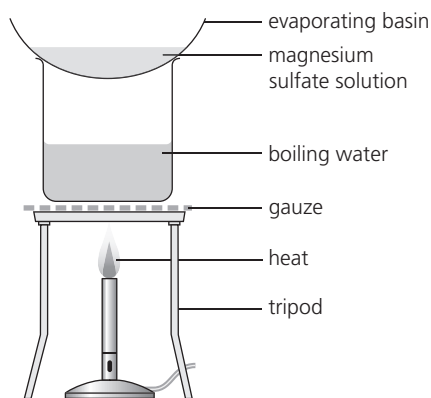

Figure 6
- 5 Place the evaporating basin onto a 250 cm3 beaker, as shown in Figure 6. Light the Bunsen burner and evaporate the filtrate slowly until there is only a small amount of solution left. Do not allow the solution to boil dry.